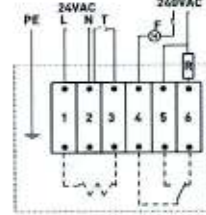
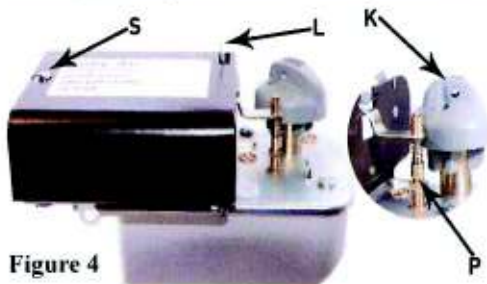
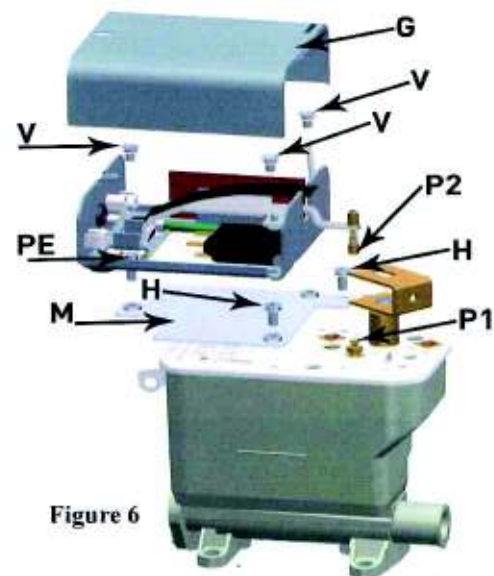

Figure 3
Figure 4
Figure 6
- All versions are fitted with a manual control lever (L). If the lever is placed in the position (Z) then the flow rate can be adjusted by the knob (K). With the lever in position (Z) the appliance can be satisfactorily operated during a power failure.
- The ZR electric top is supplied for installation on the Toby DVR5 oil control valve with thermostat pin (Fig. 6 - P1 + P2).
Fig. 2 shows the wiring arrangements. The cables are fed through the grommets (C) in the end of the ZR housing and retained by the strain relief (D) inside the housing. **Fig. 3** shows the wiring terminal block. Connections should be made in accordance with Pattern 1, for appliances without fan assistance, Pattern 2 and 3 for high and low voltage operation with fan. For 240 volt applications the earth connection (PE, **Fig. 6**) must be made. On fan switch models it is possible to reduce the speed of the fan on low fire by the addition of a resistor 'R', see Pattern 2 and 3 at cable connection no 6. Please check before connection that the voltage of the ZR electric top is the correct version for the appliance voltage.
The ZR electric top is usually mounted by Toby onto the oil control valve and then supplied to the customer. If a ZR electric top must be replaced by the customer, proceed as follows. Remove screw (S) in **Fig. 4** and remove the cover (G) in **Fig. 6**. The adaptor plate (M) is fastened onto the oil control with the 2 screws (H). The ZR electric top is then fixed onto the adaptor plate with the 3 screws (V). Check and adjust if necessary that the pin (P2) is directly above the thermostat pin (P1) in **Fig. 6** before tightening screws (V). Always check the local by-laws and manufacturers instructions before assembly.